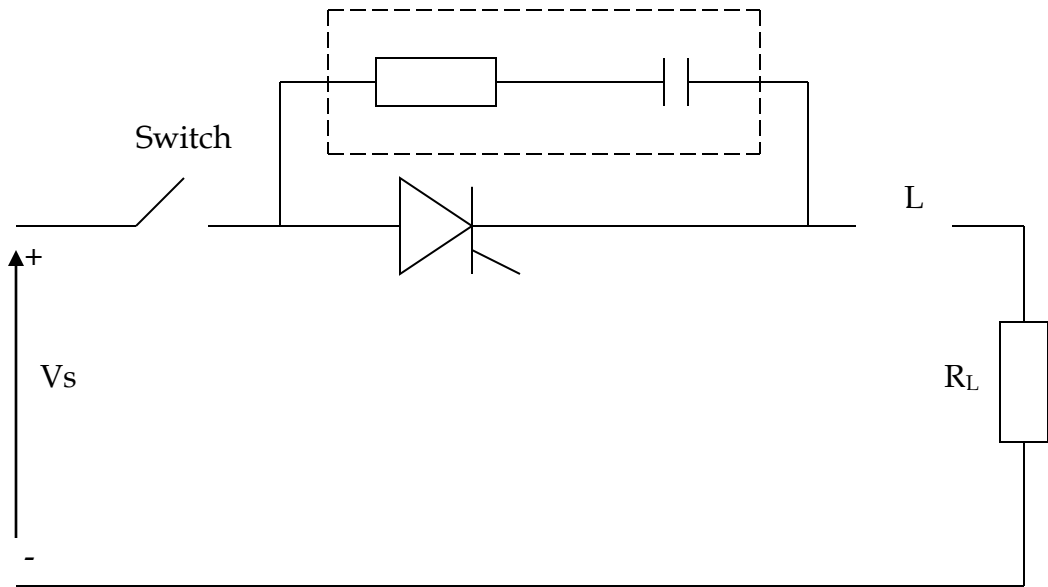

Figure 2
Figure 2 shows thyristor protection with L and Rs and Cs forming the snubber circuit. The supply voltage, V_s , is 400v d.c and the specified limits for $\frac{di}{dt}$ and $\frac{dv}{dt}$ for the thyristor are 50A/ μ s and 300v/ μ s respectively.
- (i) Draw the equivalent circuit for figure 2 at the instant the switch is closed.